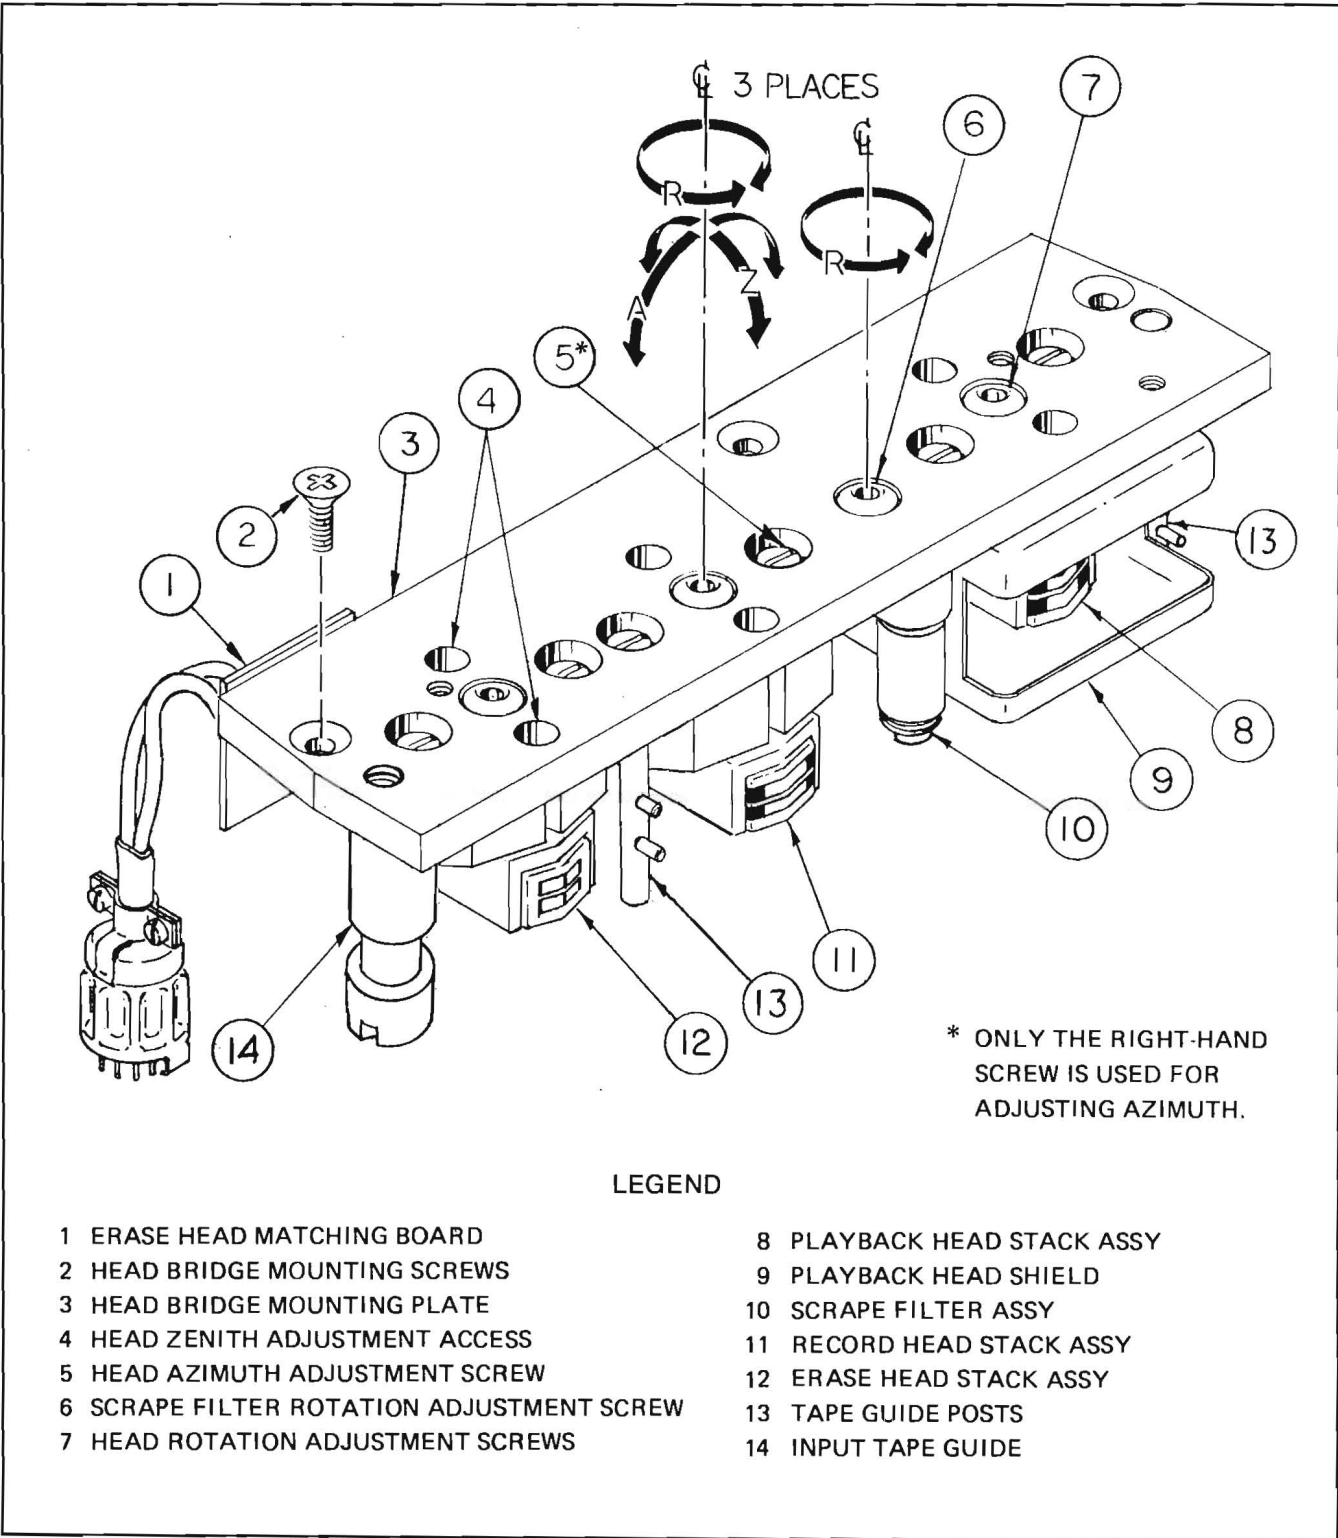

Figure 7-3. Head Adjustment
7.3 Tape Head Assembly Adjustments (Figure 7-3).